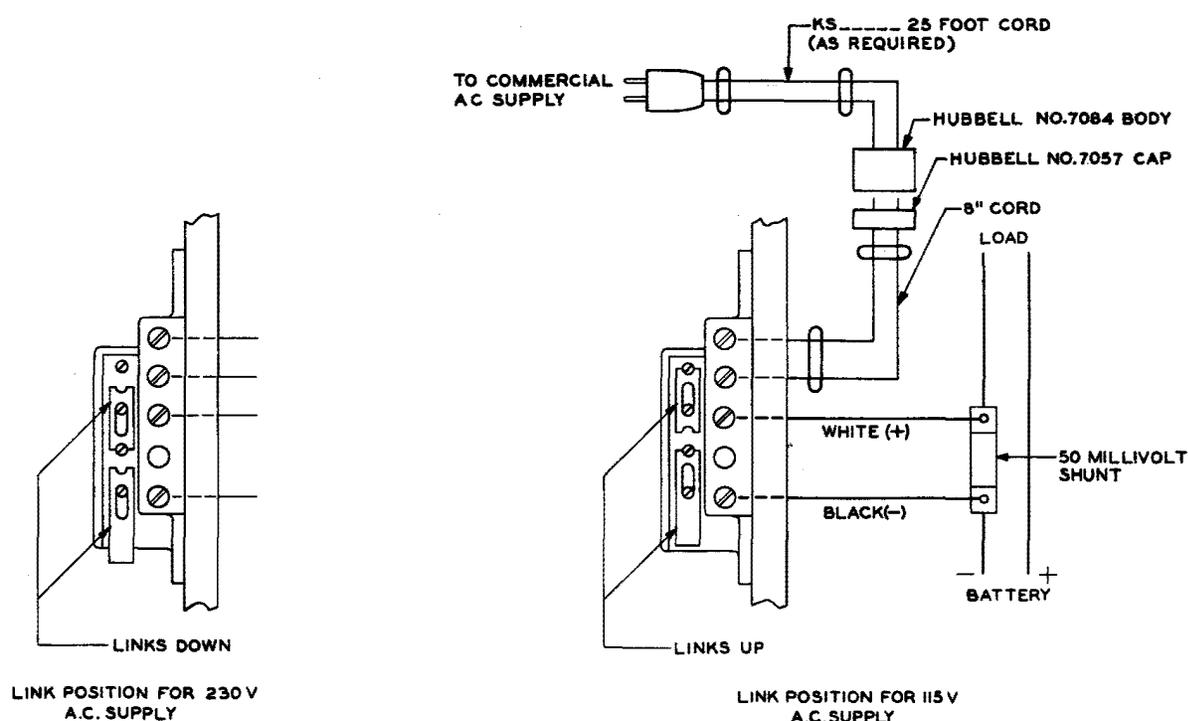
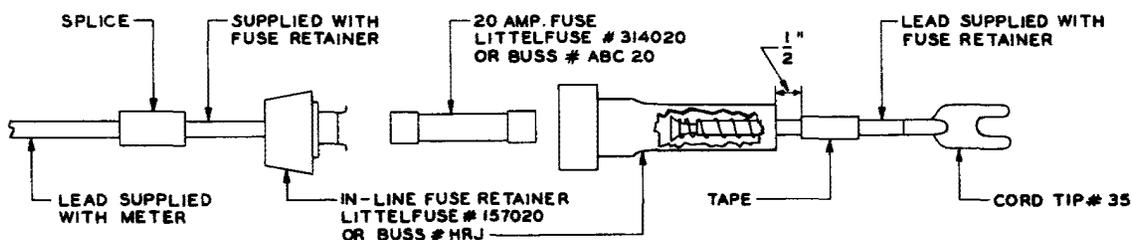
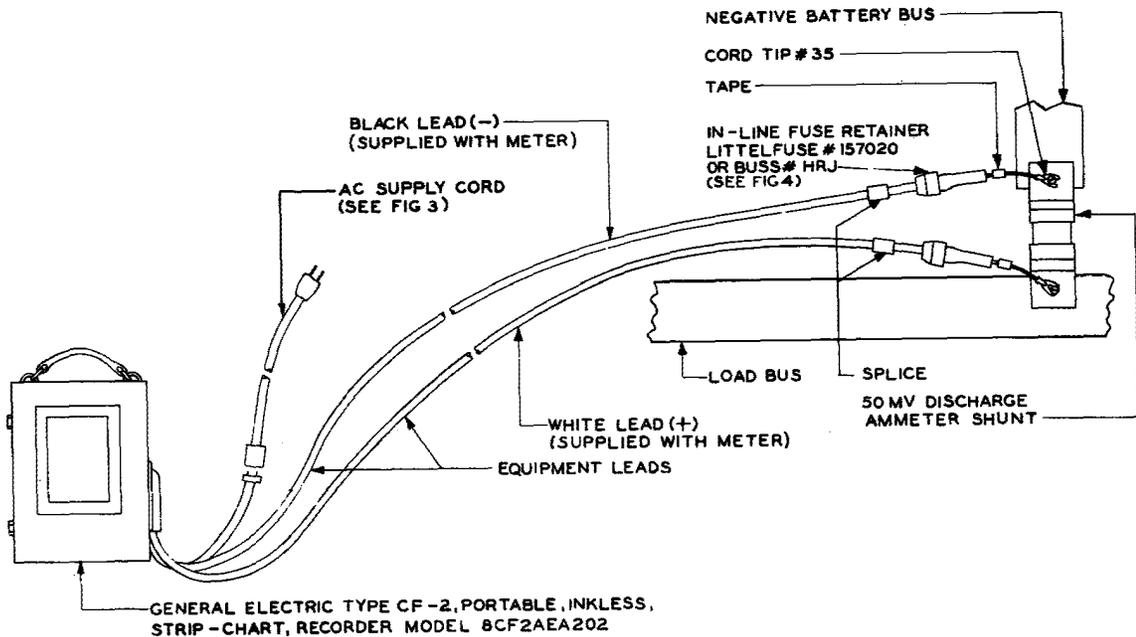

Fig. 3 - Recorder Terminal Strip Link Positions
Fig. 4 - Test Lead Preparation
Fig. 5 - Connection Sketch
2.01 AC Supply Leads: Make up an 8-inch cord using No. 18 double-conductor rubber-covered wire. Equip one end of this cord with the two General Electric Company terminal tips furnished with the instrument and connect it to the two ac supply terminals on the terminal strip in the recorder (see Fig. 3). Attach the Hubbell No. 7057 plug cap to the other end of this cord. Attach the Hubbell No. 7084 body to the free end of the 25-foot KS cord.
2.02 DC Equipment Leads: A 5-foot length of black and white twisted wire, equipped with lugs at one end and terminal tips at the other, is furnished with the instrument. The terminal tip end of this pair of leads is to be connected to the terminal strip in the instrument (see Fig. 3). The other end of the pair shall be arranged as follows (see Fig. 4):
3.02 Adjust the terminal block links in the recorder to agree with the voltage of the ac power convenience outlet to which the meter will be connected (see Fig. 3).
3.03 Remove the fuses from the fuse retainers in the dc equipment leads. Connect the terminal tip ends of the black and white leads to the recorder terminal strip (see Fig. 3). Connect the white lead to the load bus side of the 50-millivolt shunt, and connect the black lead to the negative battery bus side of the shunt (see Fig. 5). To connect these leads to the shunt, place the cord tip at the end of each test lead under the meter terminal screw on the two ends of the shunt and tighten. Reinstall the fuses by first
placing the fuse into the short end of the fuse retainer, and then plugging the short end of the fuse retainer into the long end of the fuse retainer. Then connect the Hubbell cap and body together (see Fig. 3) and plug the ac supply cord into an ac supply outlet. The recorder should start recording the power load.